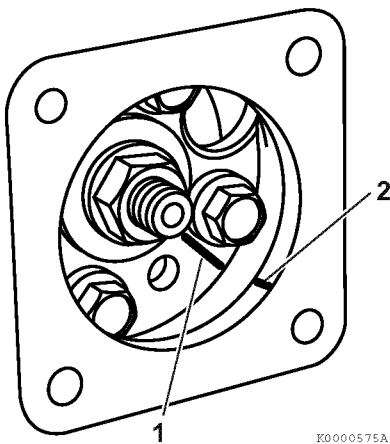

Figure 7-10
- On 3TNV88F engine the idler gear is not visible. Make a reference mark on the fuel injection pump drive gear (1, **Figure 7-10**) and a matching mark on the bore of the gear case opening (2, **Figure 7-10**).